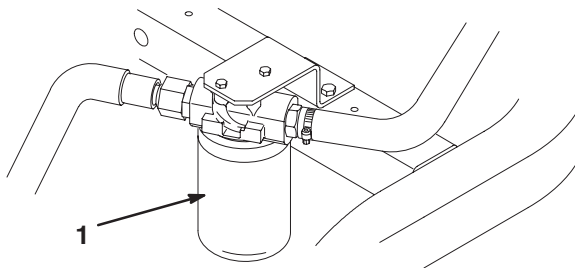

Figure 50
1. Clean the area around the filter mounting area (Fig. 50). Place a drain pan under the filter and remove the filter.